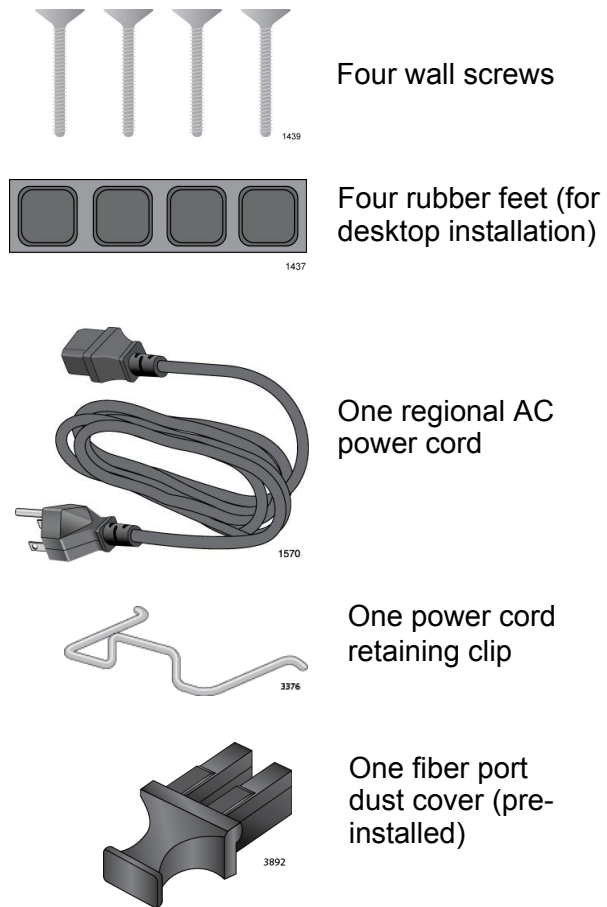

Figure 15. AT-PC2000/LC Shipping Package Contents
- Figure 15 on page 39 shows shipping container items for the AT-PC2000/LC.